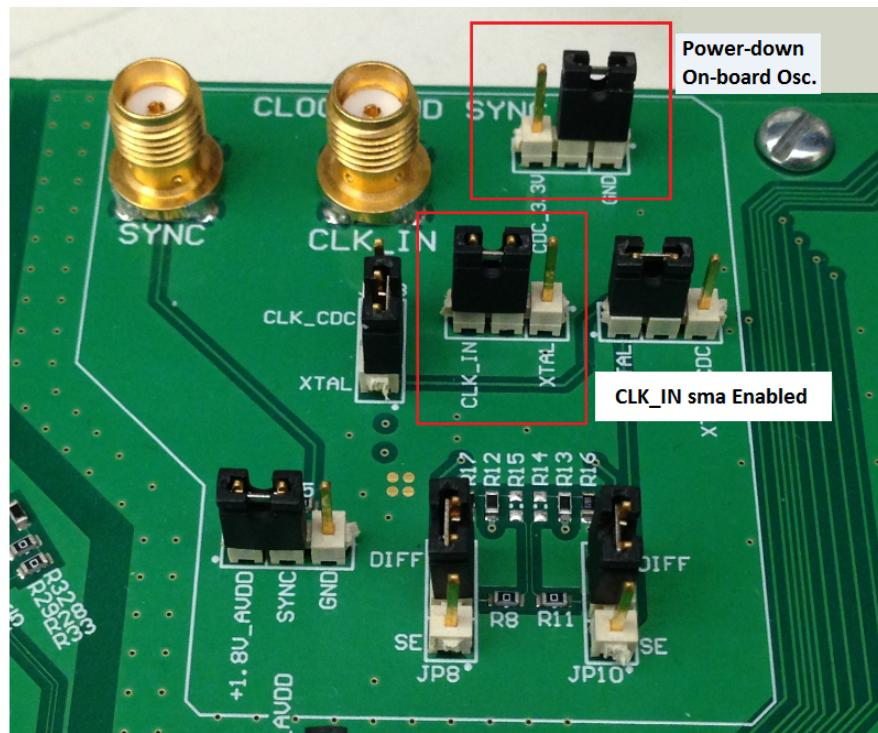

Figure 39. Jumper JP11 and JP9 Positions for Disabled XTAL
1. The RAMP test described in Section 4.2 was performed using an 80-MHz on-board crystal oscillator (XTAL) for the sampling clock. This clock cannot be used to measure performance of the device as it is not phase locked to the input signal. The XTAL should be disabled by moving jumper **JP11** from the position labeled **CDC_3.3V** to the position labeled **GND** in the silkscreen. Also, **JP9** must change position from **XTAL** to **CLK_IN** in the silkscreen to enable the SMA J5 **CLK_IN**. Figure 38 and Figure 39 show the jumper positions before and after this change, respectively.